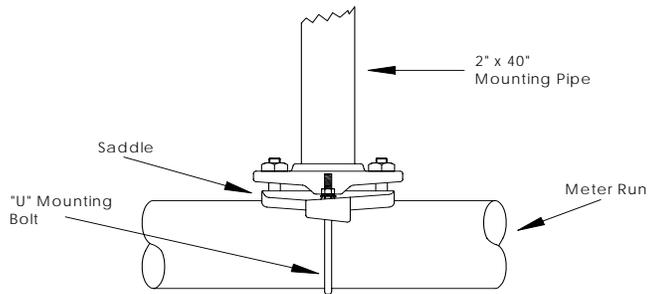

Figure 1 (Saddle Mount)
4. Install bracing for unit; (pipe saddle, direct mount, pipe driven in ground). Attach U-bolts to 2" pipe using silicone spray or Teflon tape to prevent galling. (See Figures 1 & 2)